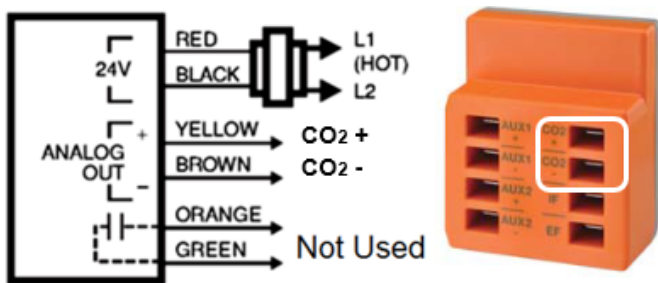

Fig. 7a - Honeywell C7232 CO₂ Sensor Typical Connections
3. Wiring CO₂ Sensor to ZIP Economizer- See Fig. 7a and 7b.